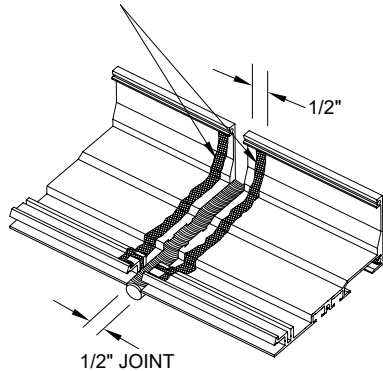

FIGURE 1
3. Apply bead of silicone within 1/2" of the edge of the sill members on each side of the 1/2" joint. (Figure 1)